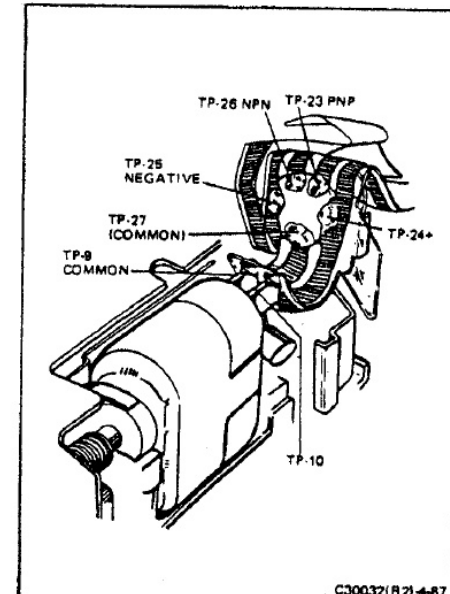

FIGURE 4-87 MCC TO MOTOR CONNECTIONS
- Locate the flex circuit extension that reaches the two motor contacts, Figure 4-87. Using tweezers, press the flex circuit over the motor contacts until the contacts protrude through the flex circuit. If this step is performed correctly, the flex circuit will be held securely in place on the two motor contacts.